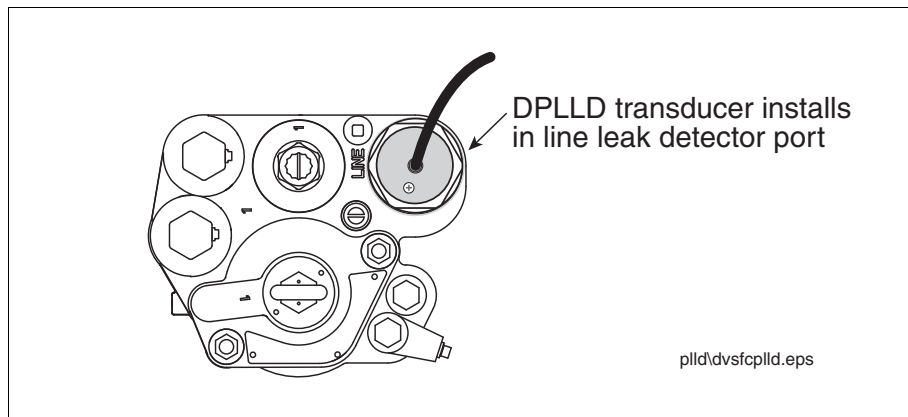

Figure 9. Locating discharge port plug for line leak transducer
3. If the pump does not have a Stage II vapor recovery device installed in the pressurized piping, remove the 2" NPT plug from line leak detector port. Install the DPLLD transducer into the 2" NPT port (see Figure 9).